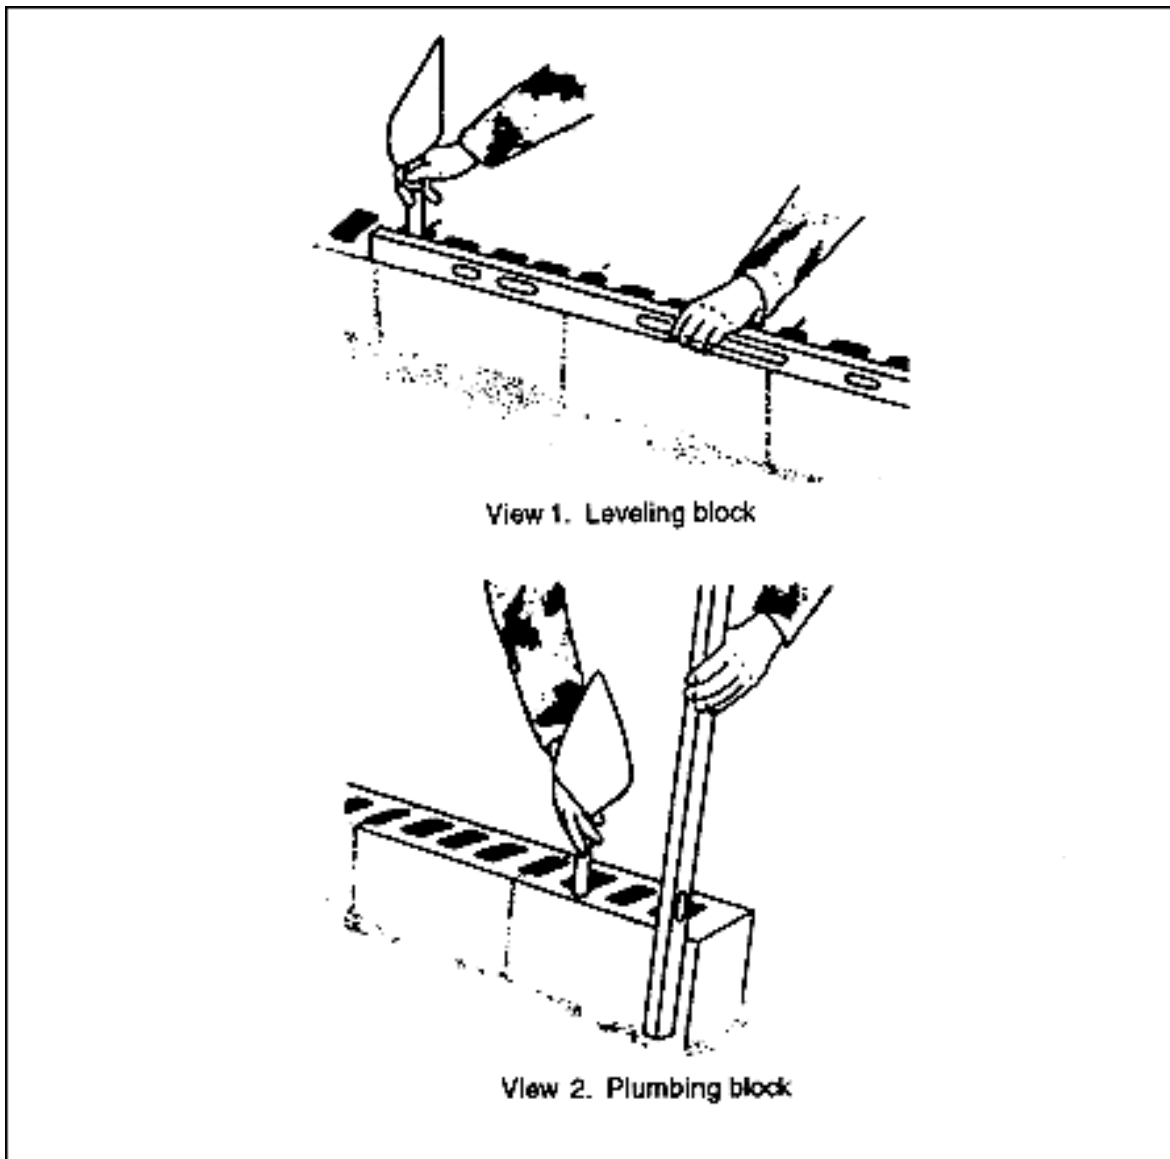

Figure 8-6. Leveling and plumbing first course of blocks for a wall
Step 7. Use a mason's level after laying three or four blocks as a straightedge to check correct block alignment (see Figure 8-6).
Step 8. Use the level to bring the blocks to proper grade and make them plumb by tapping with a trowel handle as shown in Figure 8-6.